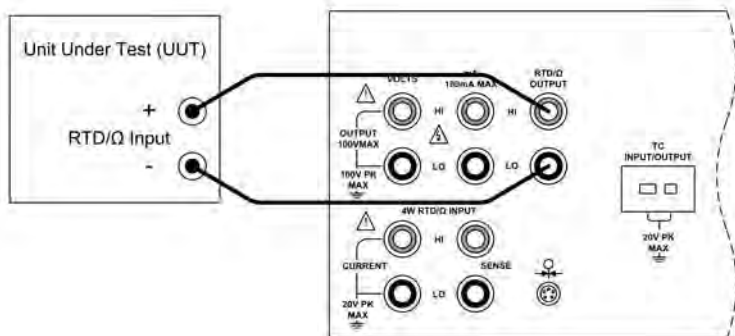

Figure 13 - RTD/ Ω Output Connection
- e) Connect the unit under test to the RTD/ Ω output terminals of the CL3001 as shown in figure 13.